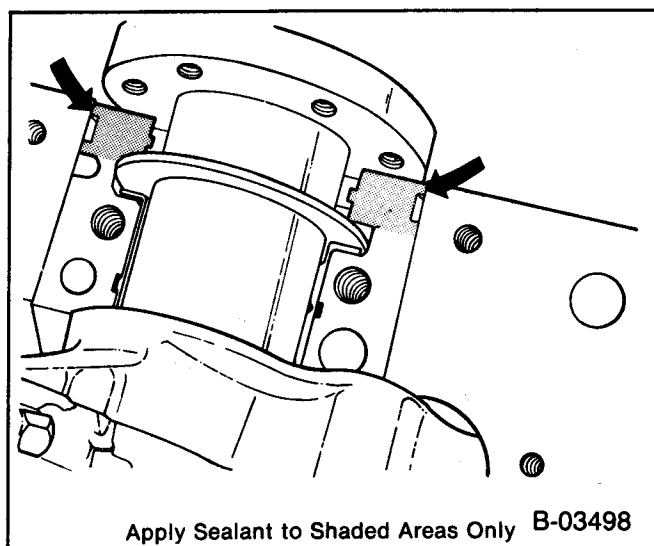

Figure 22—Applying Sealant To The Block
- Apply a brush-on type oil sealing compound to the mating surface of the block and cap (figure 22). Do not allow any sealant on either crankshaft or rear oil seal.